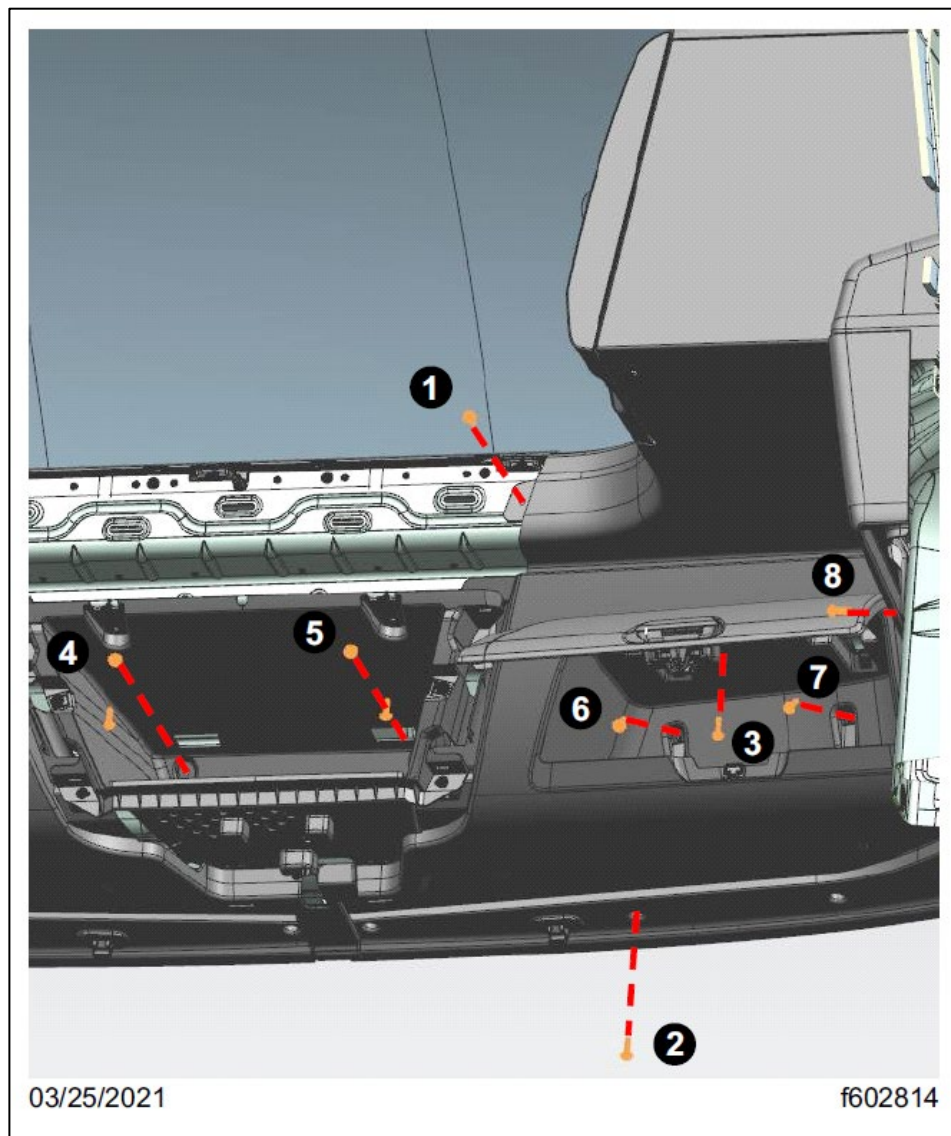

Fig. 64, Attach the Center Overhead Storage and the RH Side Overhead Storage Assembly to the Cab Roof
- 14.4. Install the fasteners that attach the center storage bin and the RH side overhead storage assembly to the cab roof. Tighten the fasteners 11 to 13 lbf.ft (14 to 18 N.m) as per sequence shown in Fig. 64.